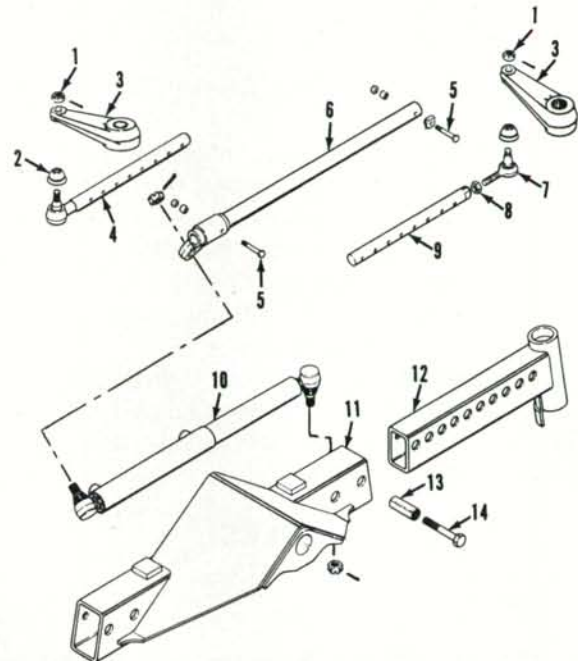
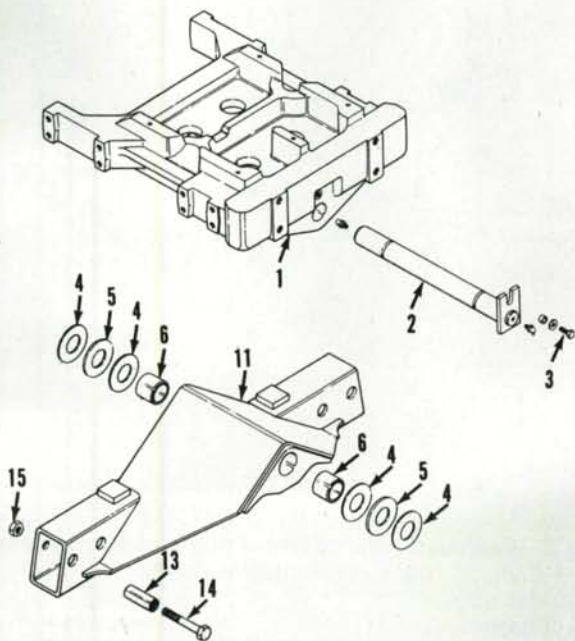

Fig. 3—Exploded view of steering tie rod, cylinder, arms and related parts used on two-wheel drive tractors.
Fig. 4—Exploded view of front axle and support used on two-wheel drive models.
4. TIE RODS AND TOE-IN. Disassembly of tie rod assembly is obvious after examination of unit and reference to Fig. 3. However, upon reassembly make sure clamp bolts (5) are installed in same number hole as axle extension.
5. To remove axle main member, first raise and support tractor under engine side rails with suitable jack stands. Disconnect tie rods from steering arms, then refer to Fig. 3 and disconnect power steering cylinder (10) from axle main member and tie rod lug. Secure steering cylinder up and out of the way. Be careful not to damage hydraulic lines to cylinder.
Refer to Fig. 4 and remove bolt (3), washer and spacer. Remove front grease fitting and install a slide hammer to pivot shaft (2). Support axle main member with a rolling floor jack, then pull pivot shaft out front of front support (1). Catch thrust washers (4 and 5) as shaft is removed. Lower axle main member enough to clear front support and roll forward from tractor.
If axle extensions (12—Fig. 3) have been removed, reinstall and insert spacers (13—Fig. 4) and locator bolts (14). Install and tighten nuts (15) to a torque of 400-480 ft.-lbs. (542-651 N·m).
6. To remove front support (1—Fig. 4), first disconnect headlight wiring, then remove grille, hood and side panels. Drain coolant from radiator and disconnect upper and lower radiator hoses. Disconnect air intake tube, oil cooler lines and air conditioner lines at quick couplers. Attach a hoist to the radiator, condenser and oil cooler assembly support brackets, remove two rear bolts and three front bolts, then lift off the assembly. Remove front axle assembly as out-